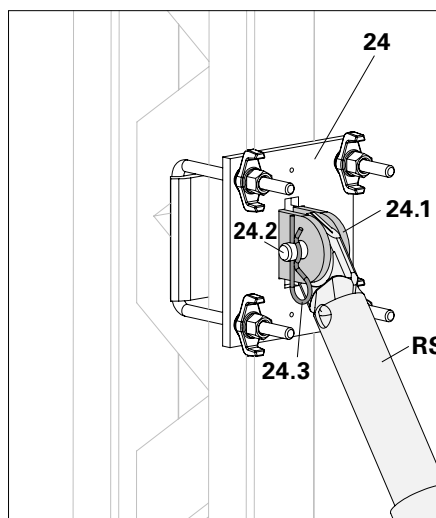

Fig. A6.05
- Install Girder Headpiece (24) within the girder: connect Push-Pull Prop (RS) to connection lugs (24.1) using bolts (24.2) and cotter pins (24.3). (Fig. A6.05)